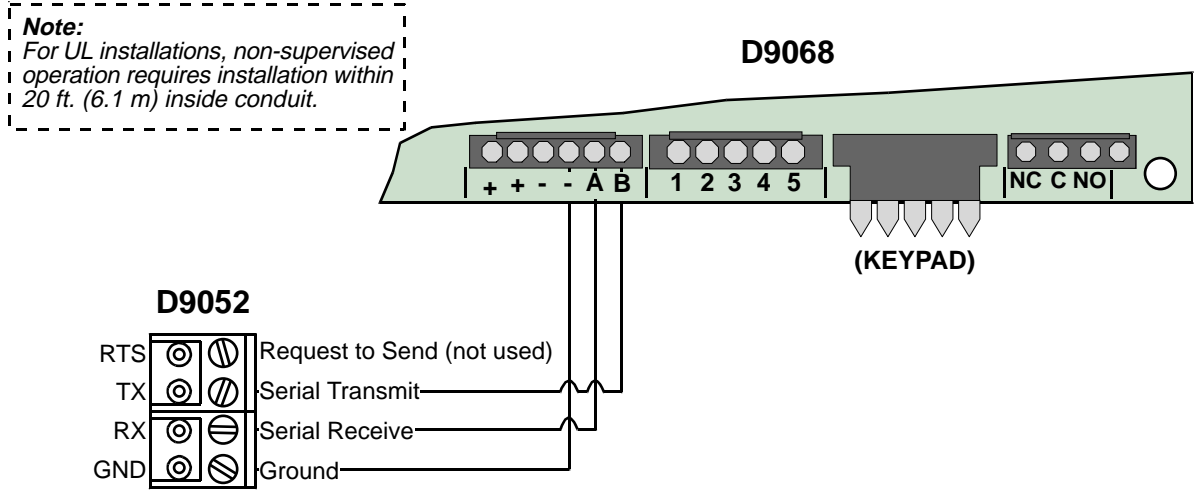

Figure 13: D9068 to Analog FACP Connections
- All phone line connections have been made according to Figure 13.